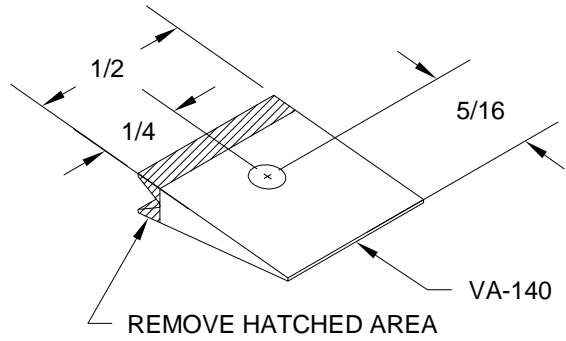

FIGURE 2: WEDGE TOOL FABRICATION
Step 1: Cut a length of VA-140 Trailing Edge to the length shown in Figure 2, centered on a .094 hole.
Step 2: Remove the hatched area from the length of VA-140 Trailing Edge as shown in Figure 2.